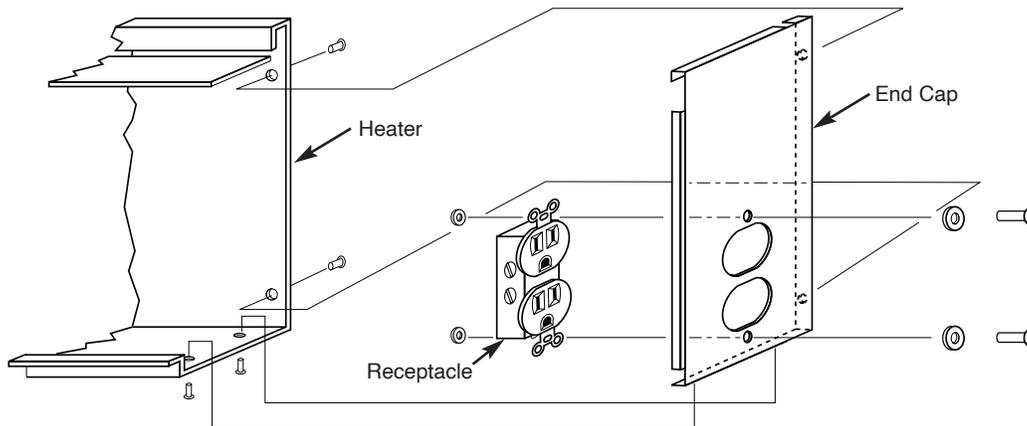

Figure 3
4. Mount receptacle to end cap - heater assembly as shown in Figure 3 below. Use no. 8 hardware supplied with end cap.